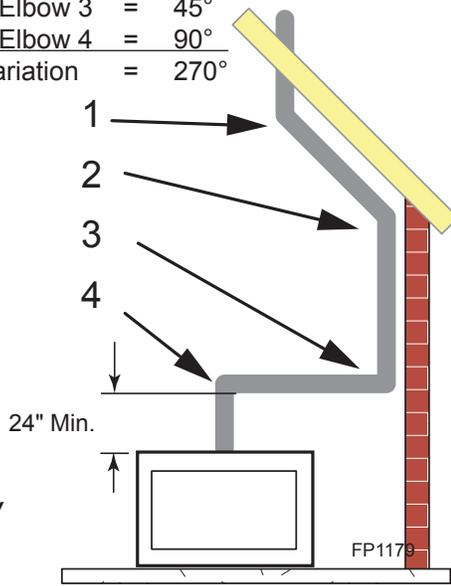

Figure 22 - Maximum Elbow Usage
- Two sets of 45°elbows offsets may be used within the vertical sections. From 0 to a maximum of 8' (2.5 m) of vent pipe can be used between elbows. Figure 22
- The maximum angular variation allowed in the system is 270°. Figure 22
NOTE: Pay special attention to these installation instructions for required clearances (air space) to combustibles when passing through ceilings, walls, roofs, enclosures, attic rafters, etc. Do not pack air spaces with insulation. Also note maximum vertical rise of the venting system and any maximum horizontal offset limitations. Offsets must fall within the parameters shown in Figures 22 and 23.